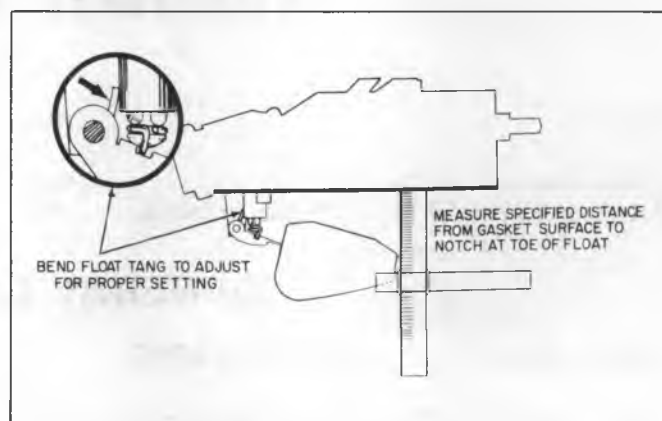

Fig. G10--Float Drop Adjustment (Nitrophyl)
2. With air horn right side up so that float can hang free, measure distance from lip at toe of float to air horn gasket. Adjust float to specifications by bending tang (Fig. G10).